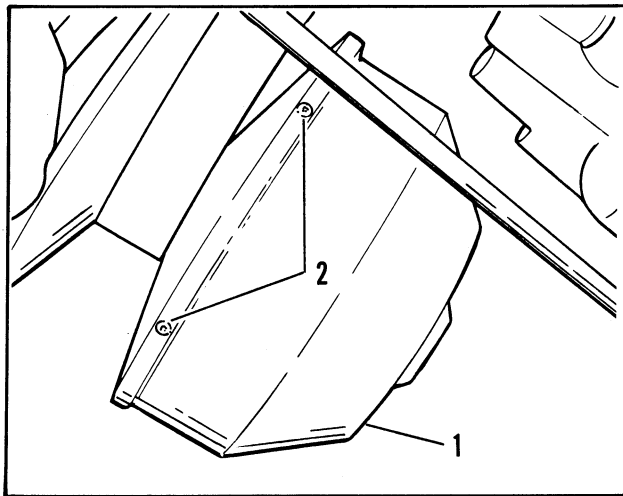
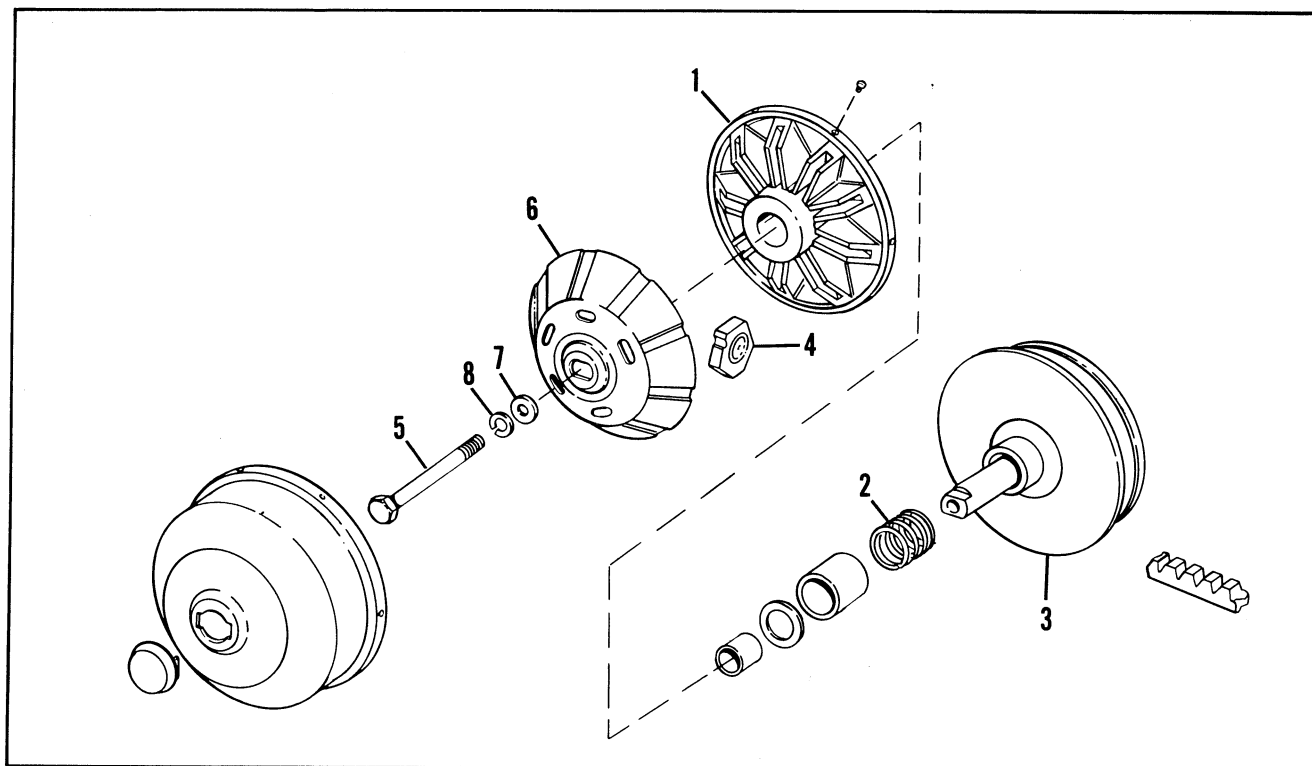

Figure 81 – Primary Drive Cover
Figure 85 - Primary Drive
- e. See Figure 81. Remove primary drive cover screws (2), pull cover (1) off.
- h. Separate the floating flange (1), spring (2) and fixed flange (3), Figure 85.
- i. Remove the pucks (4), Figure 85.
- a. See Figure 85. Install spring (2), floating flange (1) and weights (4) to fixed flange (3) on a flat surface. Check post length.
- b. See Figure 85. Install cover (6) by lining up the "D" slot in the cover with the slot of the stem while pressing on the cover to compress the spring (2) until cover (6) contacts the stem. Lightly tap cover onto stem until stem is flush with top of cover.
- c. Install washer (7), lockwasher (8) and bolt (9) into stem. Install primary onto crankshaft taper and thread bolt (9) by hand. Hold primary as described in NOTE under Step f of Disassembly and tighten bolt (9) to 38-48 ft.-lbs. torque.
- d. See Figure 81, Page 69. Install cover (1), screws (2) and plug (3).